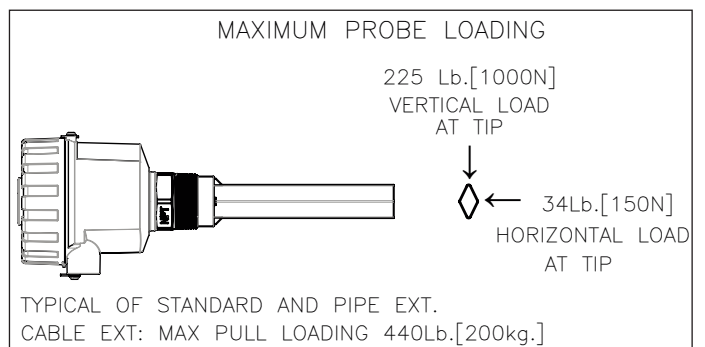

Figure 3
- 4) Dynamic Material Flow:** Please consider the maximum limits of bending force as shown in Figure 3 when choosing a mounting location and installing the **PZP** level sensor.